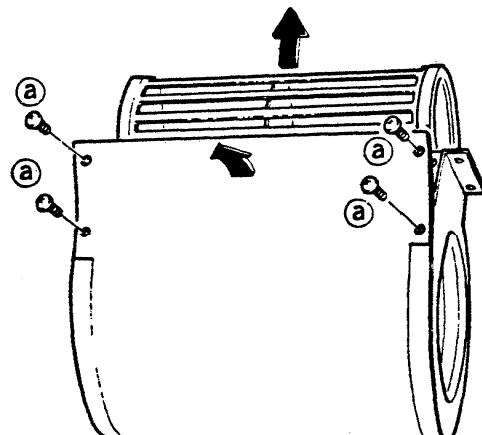

Fig. 12
- 7) The fan can be removed as shown in the figure when the four screws (a) fixing the back plate of the fan casing are removed. Fig. 12